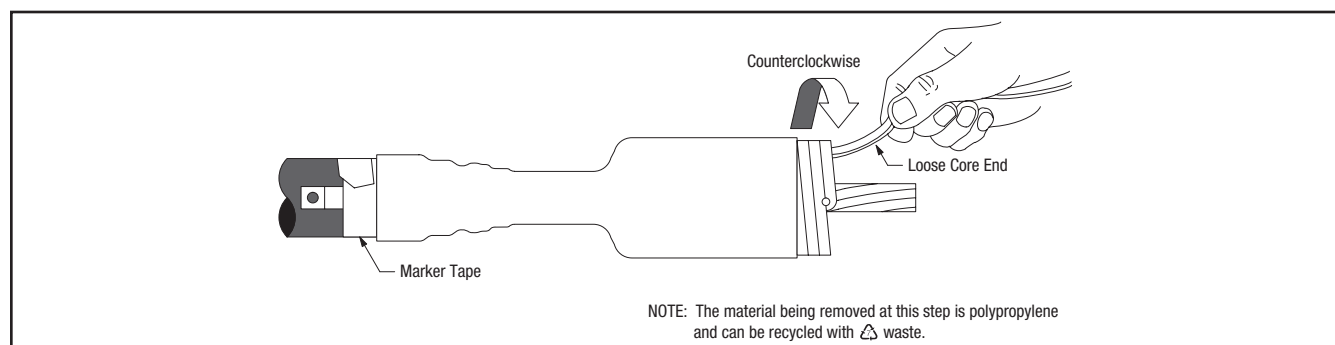

Figure 13
10.3 Slide termination onto cable (loose core end extending out toward cable lug end), aligning base with previously applied marker tape (Figure 13).
10.4 Remove the core. Pull while unwinding, counterclockwise, starting with the loose end (Figure 13). Make sure the termination body (not the core) is butted up to the edge of the vinyl tape marker previously applied (Figure 13).